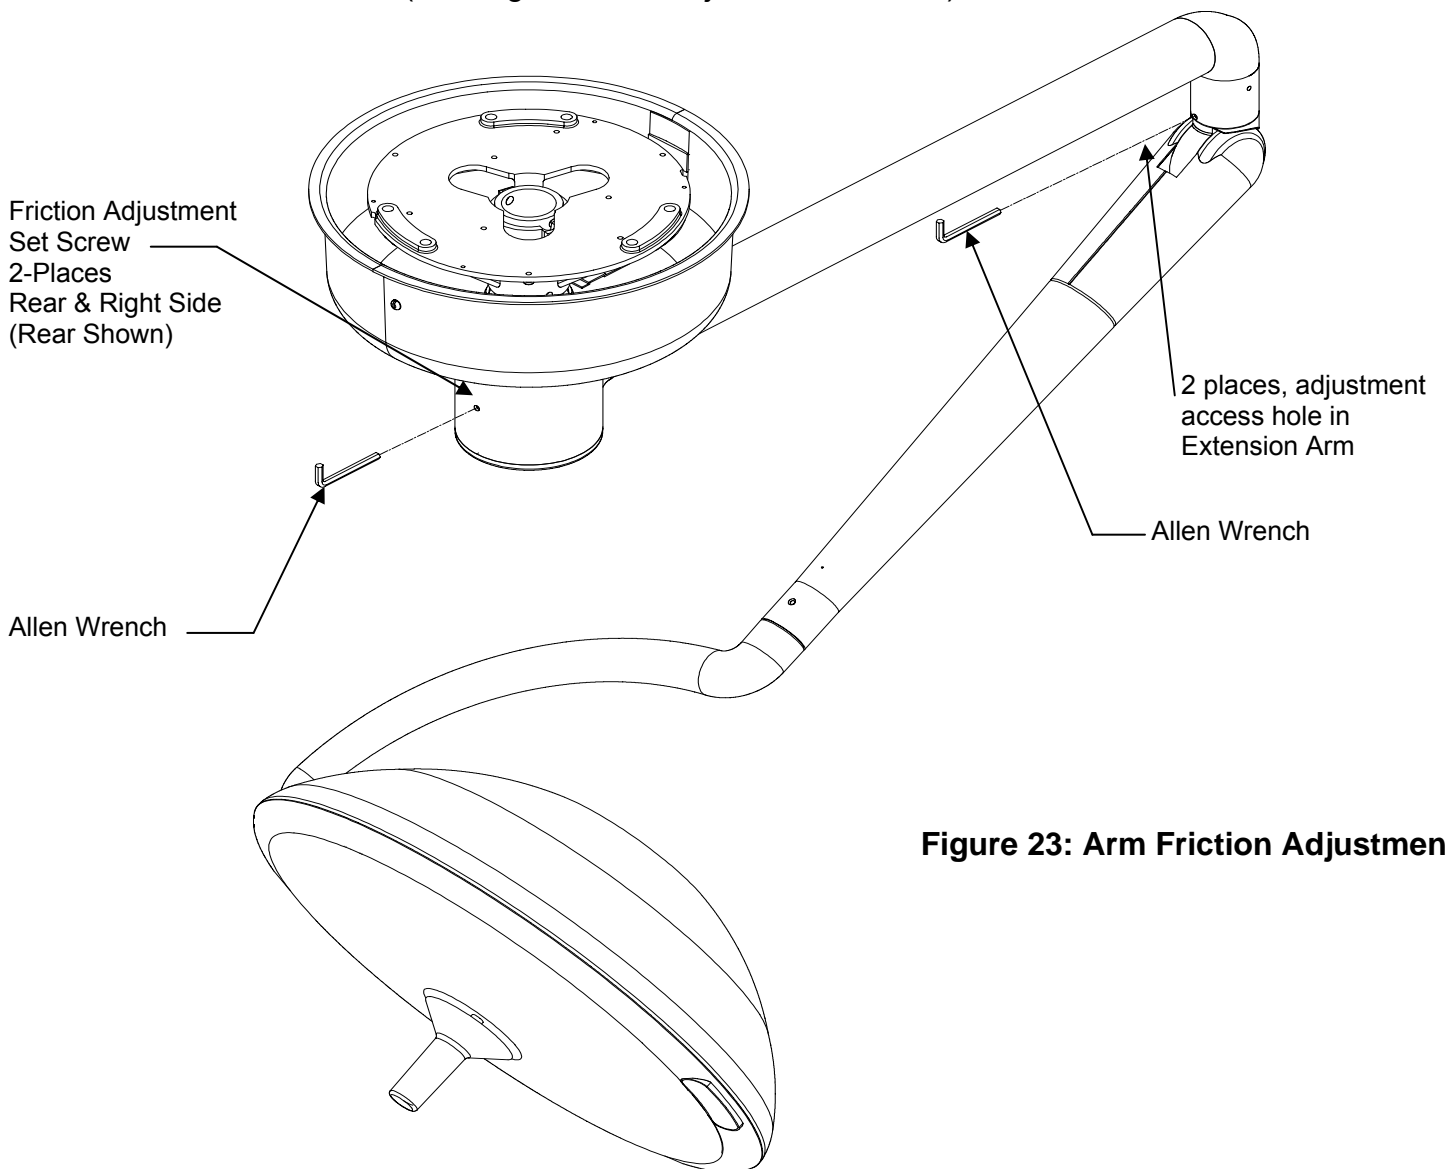

Figure 23: Arm Friction Adjustment
- Using the Allen wrench(supplied in the hardware kit) turn the 2 set screws located on the arm housing clockwise to increase friction or counterclockwise to decrease friction.(See Figure 23 for adjustment location). If the head and articulating arm are drifting, adjust the brake located on the extension arm.
- Using the Allen wrench(supplied in the hardware kit) turn the set screw (2 locations) located on the elbow clockwise to increase friction or counterclockwise to decrease friction. (See Figure 23 for adjustment location)